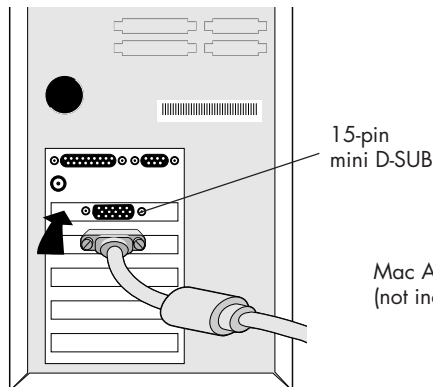

Figure A.1
2. For the PC: Connect the 15-pin mini D-SUB of the appropriate signal cable to the connector of the display card in your system (**Figure A.1**). Tighten all screws.